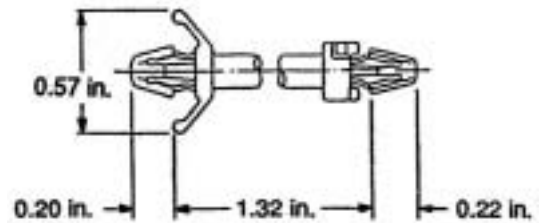

Figure 3. Mounting Spacer
- a. Remove contents from package. Verify that a mounting spacer (P/N 5RNT41028-9) is included with the card. See Figure 3.